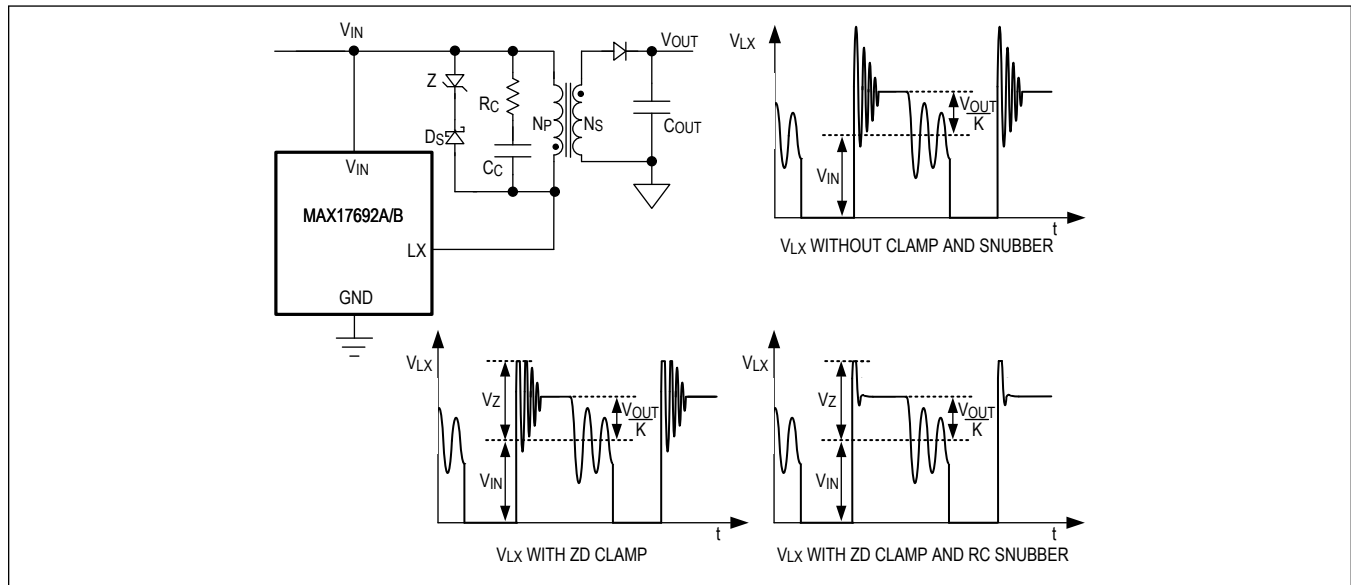

Figure 9. Voltage Clamp Circuit
A simple Zener-diode (ZD) clamp can be used as a voltage-clamp circuit. Figure 9 shows the operating waveform of the ZD clamp. Ideally, the ZD breakdown voltage should be selected to be the same as the V_{CLAMP} . However, in practice, the ZD breakdown voltage should be 5V to 10V below the V_{CLAMP} to accommodate any additional voltage spike due to parasitic inductance in the clamp-circuit path, such that the LX voltage does not exceed 76V. A 0.25W power rating ZD satisfies most applications.